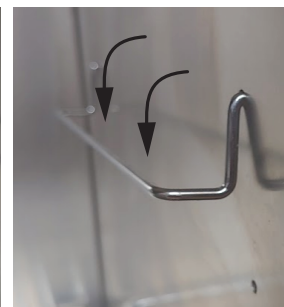

FIG. 3
- 2 Insert shelf bracket ends into the hole and press down on the bracket as shown in (FIG. 3). Repeat process on the opposite side of the wall.